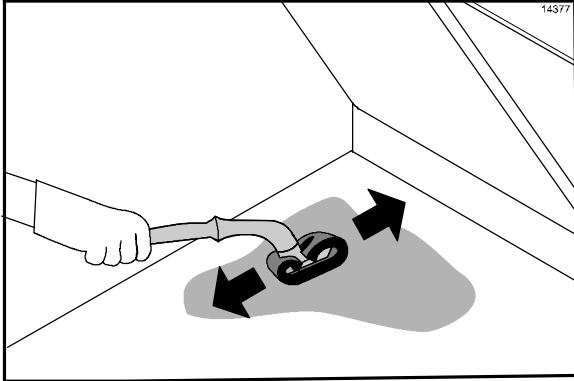

Figure 105
39. Use the cleaning pad holder to lightly scrub the lower grill surfaces until all soil has been liquified by the grill cleaner. For stubborn soils, apply additional grill cleaner and lightly scrub. (See Figure 105.)